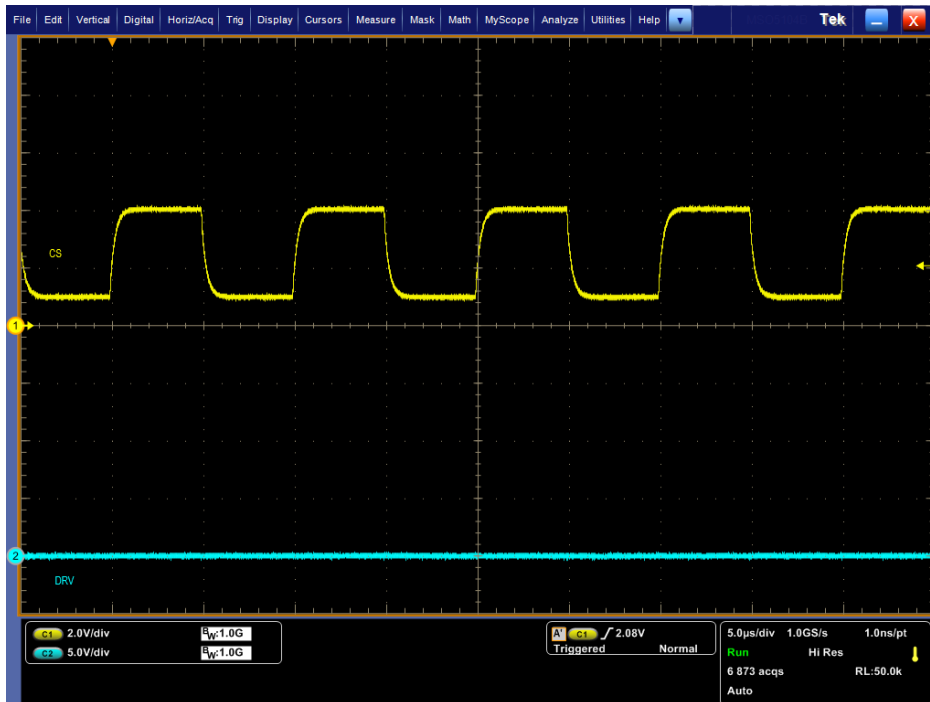

Figure 3: $V_{CC} = 12\text{ V}$, $f = 100\text{ kHz}$, $DC = 50\%$, $V_{LOW} = +1\text{ V}$, $V_{HIGH} = 4\text{ V}$
6. Check that $I_{CC} = \sim 60\text{ }\mu\text{A}$, waveforms look like in figure 3 (no DRV pulses)